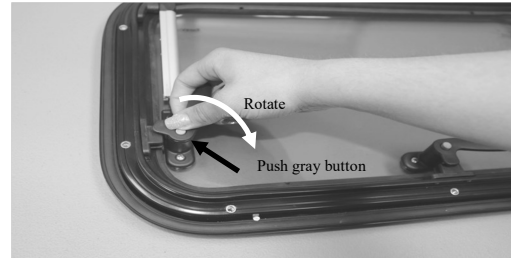

Figure 1
Step 1: Push button on the handle and rotate to unlock as per photo. (Figure 1)